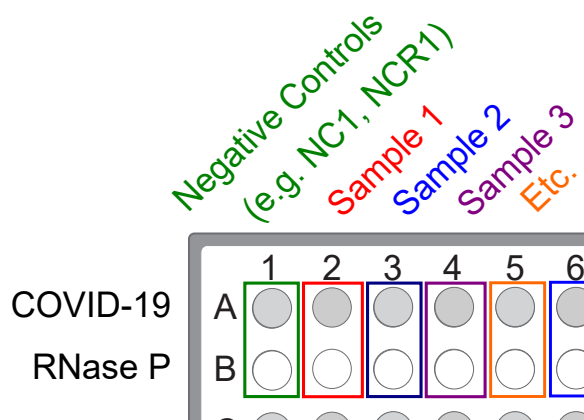

Figure 4 Paired sample and Negative Control wells for each assay
- b. Unseal the extraction plate, then add the first Negative Control from the single well of the extraction plate to wells A1 and B1 of the reaction plate, as shown in Figure 4 on page 54.